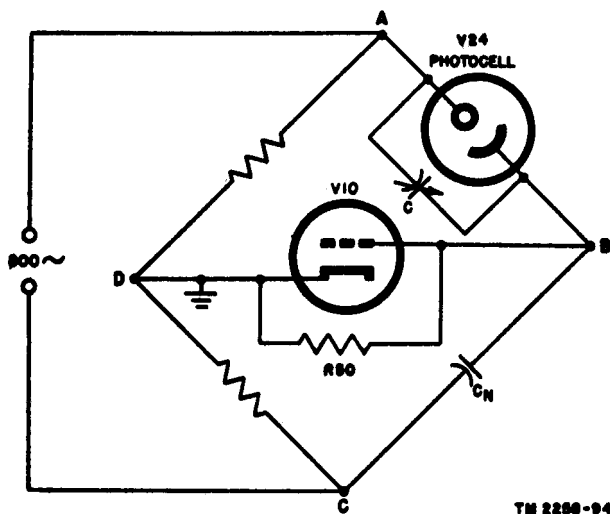
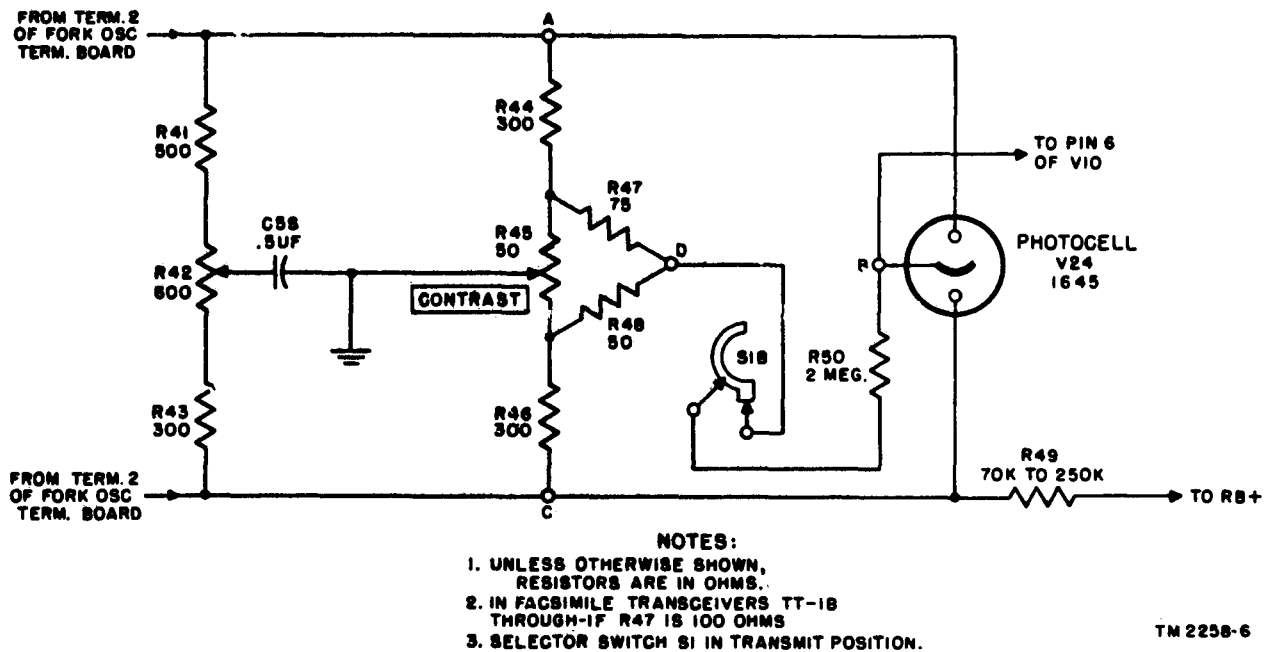

Figure 47. Simplified bridge modulator circuit.
Figure 48. Photocell bridge modulator circuit of Facsimile Transcievers TT-1/TXC-1 through TT-1C/TXC-1.
nism. During normal operation, with the PHASE switch released, cathode current of V4 flows through the phasing magnet coil associated with trigger tube V16 and also through the series resistor combination, R66 and R67 (stage V13), which is in parallel with this coil. (Refer to figures 48 and 49 and the over-all schematic diagrams of Facsimile Transceivers TT-1/TXC-1 and TT-1A/TXC-1 (figs. 163 and 164).) The flow of current through the coil holds the armature against the phasing magnet so that it does not actuate the clutch mechanism used in the phasing operation. The flow of current through R67 adds to the bias of tube V13, which requires bias beyond the cut-off value. During the phasing operation, the phasing magnet is disconnected from the cathode circuit of V4, and the armature is released. To compensate for the removal of the phasing magnet coil from the cathode circuit, resistor R40 is connected in parallel with the series combination, R66 and R67, during the phasing operation. Capacitor C27 is the cathode bypass capacitor for tube V4. Screen and plate voltage is applied from the +450-volt supply through screen
(figs. 47,48, and 49)
Photocell tube V24 is the heart of the photocell bridge modulator circuit, which is used only on transmitting. Tube 1645 is used as the photocell in Facsimile Transceivers TT-1/TXC-1 through TT-1C/TXC-1. Tube 5652 is used as the photocell in Facsimile Transceivers TT-1D/TXC-1, TT-1E/TXC-1, and TT-1F/TXC-1. The photocell and its associated circuit (fig. 47,48, and 49) cause amplitude modulation of the 1,800-cycle signal supplied from the fork oscillator unit. Amplitude modulation follows the lights and shadows on that portion of the transmitted copy being scanned. After modulation of the 1,800-cycle signal is accomplished in the photocell bridge modulator circuit, the modulated signal is fed to the grid (pin 6) of V10, the first signal amplifier. Tube V10 and the following signal amplifiers not only amplify the modulated signal, but use a series of differentiating circuits (small coupling capacitors and large grid resistors) to remove undesirable low-frequency signal components generated in the modulator circuit. Photocell tube 5652 in Facsimile Transceivers TT-1D/TXC-1, TT-1E/TXC-1, and TT-1F/TXC-1 permits the use of larger values of coupling capacitors than photocell tube 1645, which was used in previous models. The circuit that uses tube 5652 is inherently balanced for the modulating frequency, and therefore requires no discrimination against low frequencies in its amplifier strip as required in previous models.
modulator circuit is shown in figure 47. In the simplified circuit, the 1,800-cycle carrier signal from the fork oscillator unit is fed to points A and C of the resistance-capacitance bridge. Output from the bridge is the voltage developed across R50, between points D and B. This voltage is the grid to cathode or input voltage of V10. A small capacitance (C_n) exists between the cathode and active anode of V24, and this is effectively balanced out by the neutralizing, capacitance (C_n), which is the capacitance existing between the cathode and the second or neutralizing anode within the photocell. When the bridge is perfectly balanced, there is no output of 1,800-cycle signal to be applied to V10; but when increased light shines on the photocell, it causes increased electron emission from the cathode, producing a resistive unbalance of the bridge and a greater 1,800-cycle signal.
- (1) Facsimile Transceivers TT-1/TXC-1 through TT-1C/TXC-1 (fig. 48). The output of the bridge (the voltage across, R60) is a varying dc signal that consists of the keying or modulating frequency which is superimposed on the 1,800-cycle carrier frequency. This varying dc signal is always of such polarity that the grid end of R50 is positive with respect to the other end. This is caused by the increased emission from the photocell when increased light strikes it. The conven-
- (a) *Resistor networks.* Between points A and C, figure 48, where the unmodulated 1,800-cycle carrier signal is applied, are two resistor networks; one consists of R41, R42, and R43 in series and the other consists of R44, R45, and R46 in series. Resistors R47 and R48 are in series across R45. The first of these networks includes variable resistor R42, which serves as a neutralizing control and is used in balancing out the capacitive effect of the photocell. Its effect on the circuit is the same as making C_n (fig. 47) variable. Resistor R42 is an alignment control and is located beneath the chassis of Facsimile Transceivers TT-1/TXC-1 through TT-1B/TXC-1 (figs. 128 and 129). In Facsimile Transceiver TT-1C/TXC-1, R42 is located on the floating panel behind the DB METER. This control is used to set the proper value to balance out the capacitive effect of the photocell when the photocell is changed; it is not used as an operating control. Capacitor C58 provides ca-